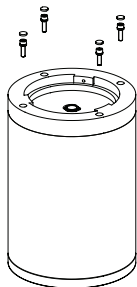

FIG.17
1. Loosen the fixture screw and gasket (**FIG.16**), remove the cover assembly (**FIG.17**).